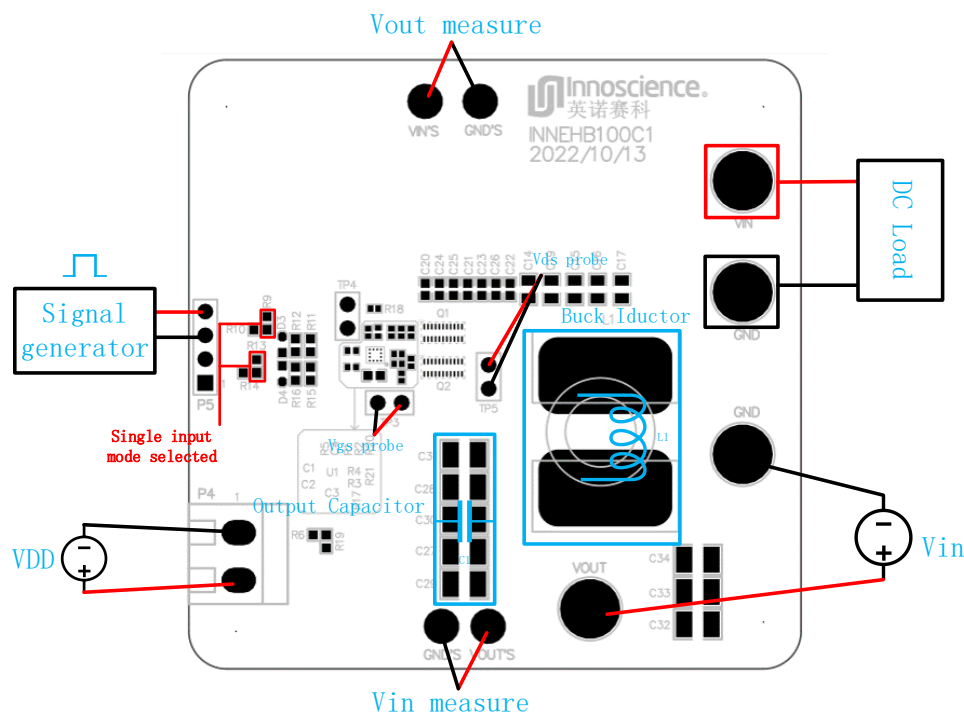

Figure 8 Single-PWM input Boost mode
2. Connect the DC voltage source to pin **VOUT**, as shown in Figure 8 (Pay attention to the polarity).